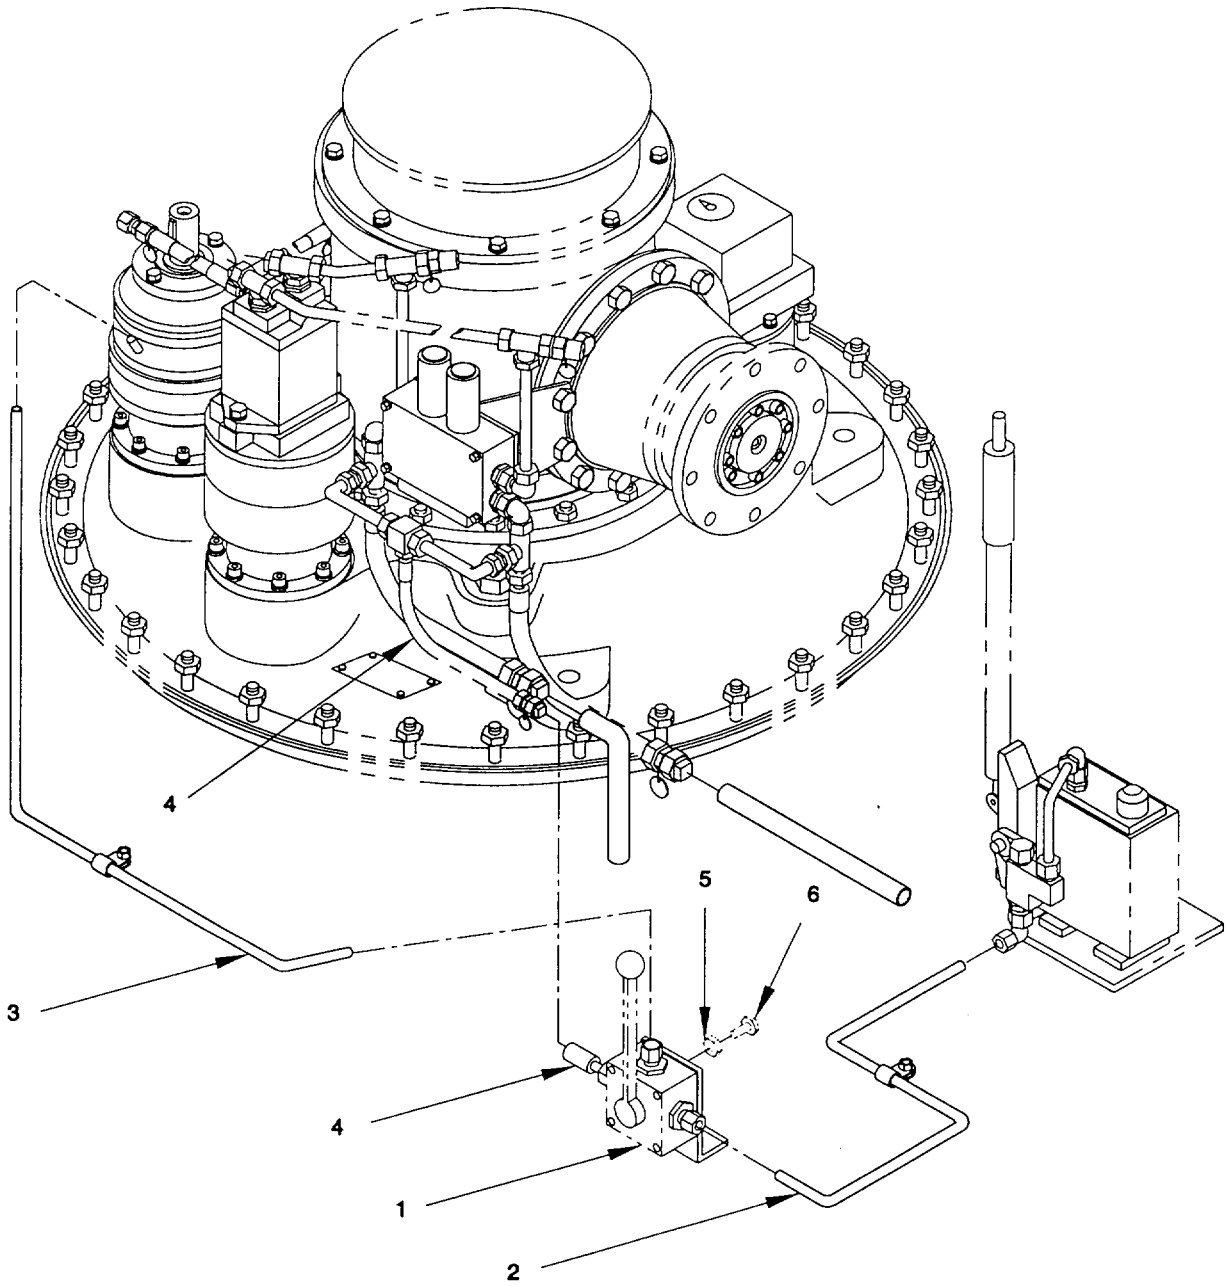

Figure 2-25. 3/2 Ball Valve, Hydraulic System, Remove/Install.
a. Remove. (figure 2-25)
- (1) Ensure hydraulic system lines leading to ball valve (1) has been shutoff and bled, if possible.
- (2) Using the hydraulic schematic, disconnect and cap the following tubes and hoses connected to the ball valve.
- (a) Tube L6 (2), from ball valve (port "3") to hand pump.
- (b) Tube L7 (3), from ball valve (port "2Z") to thruster hydraulic brake.
- (c) Hose L5 (4), from ball valve (port "1W") to thruster manifold.
- (3) Remove nuts (5) and capscrews (6) to separate collect ball valve from bulkhead.
2-32. 3/2 Ball Valve, Hydraulic System (Cont)b. *Install.* (figure 2-25)